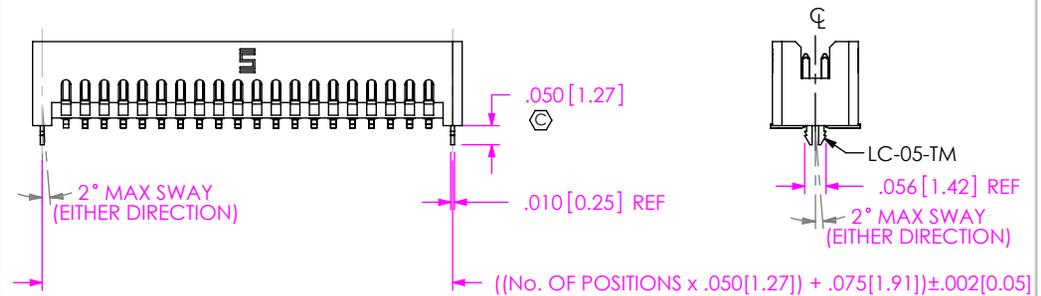

FIG 6
- LC: LOCKING CLIP (USE LC-05-TM) (NOT AVAILABLE WITH -RA) (SEE FIG 6, SHT 3, NOTE 3 & 11)